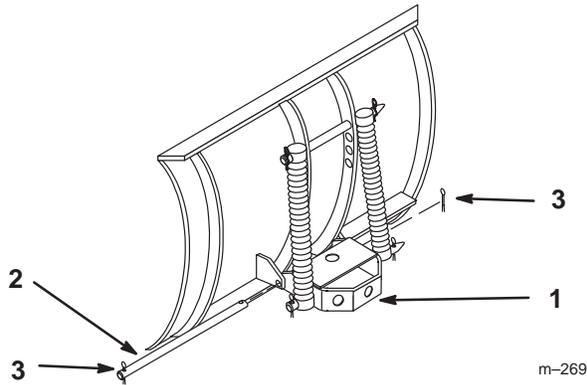

Figure 1
1. Lift and rotate channel and trip spring assembly so holes align with lower blade mounts. Slide rod through holes and secure with (2) 1/8 x 1" (25 mm) cotter pins (Fig. 1).